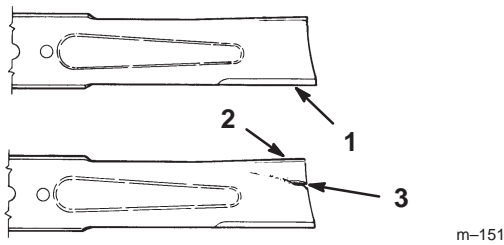

Figure 26
1. Inspect the cutting edges (Fig. 26). If the edges are not sharp or have nicks, remove and sharpen the blades; refer to Sharpening the Blades, page 24.
2. Inspect the blades, especially the curved area (Fig. 26). If you notice any damage, wear, or a slot forming in this area (item 3 in Fig. 26), immediately install a new blade.